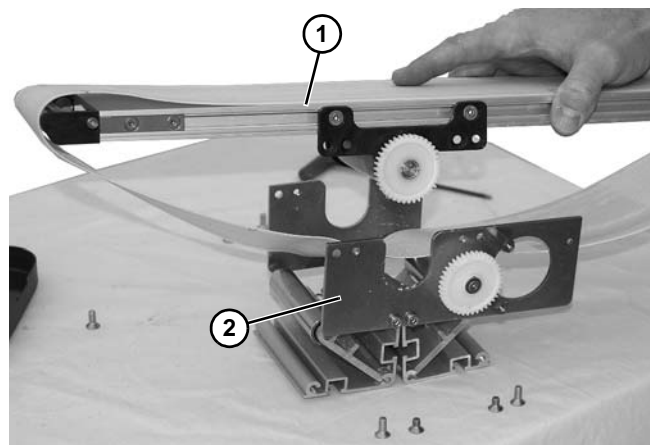

Figure 24
11. Lift conveyor (**Figure 24, item 1**) off of mid drive bracket (**Figure 24, item 2**).